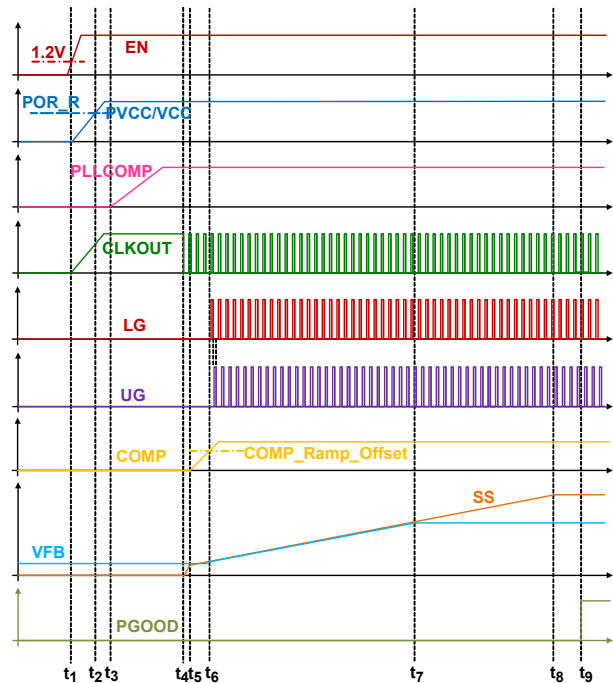

FIGURE 67. CIRCUIT INITIALIZATION AND SOFT-START
- There is no limit for the minimum voltage on the TRACK pin, but note the lower reference voltage and the lower voltage feedback regulation accuracy. Note the SS_DONE signal is checking $V_{REF_TRK} \geq 0.3V$ as one of the conditions (refer to the t_g - t_g description on page 31 and Figure 67 on page 30). Also, for the boost converter, the regulated output minimum voltage is usually the input voltage minus the upper MOSFET's body diode drop, in which case, the corresponding voltage at FB voltage is the minimum effective voltage for the V_{REF_TRK} and V_{REF_DAC} .
Before converter initialization, the EN pin voltage must be higher than its rising threshold and the PVCC/VCC pin must be higher than the rising POR threshold. When these conditions are met, the controller begins initialization and soft-start. Figure 67 shows the ISL78229 internal start-up timing diagram from the power-up to soft-start.
Assuming input voltage is applied to the VIN pin before t_1 and VCC is connected to PVCC, as shown on Figure 67, the start-up procedure is described as follows:
Diode emulation occurs during t₅-t₈ (on Figure 67 on page 30), regardless of the DE/PHDRP operating modes (Table 2).
After the ISL78229 is enabled, during the part initializing time $t_1 - t_4$ (refer to Figure 67 on page 30) before soft-start, the SALERT pin is kept pulled low. If no faults (listed in Table 4 on page 41) occur during $t_1 - t_4$, the SALERT pin open-drain transistor is open at t_4 when soft-start begins and the pin voltage is pulled high by the external pull-up circuits. If any fault in Table 4 on page 41 occurs after the beginning of soft-start, the corresponding bit of the FAULT_STATUS register is set to 1 and the SALERT pin is pulled low.